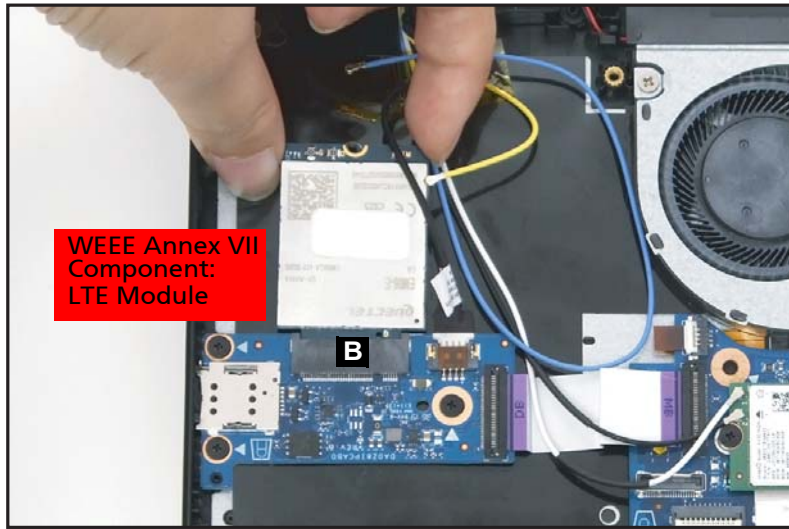

Figure 1-20. LTE Module Removal
5. Remove the LTE module from the mainboard connector (B) (Figure 1-20).